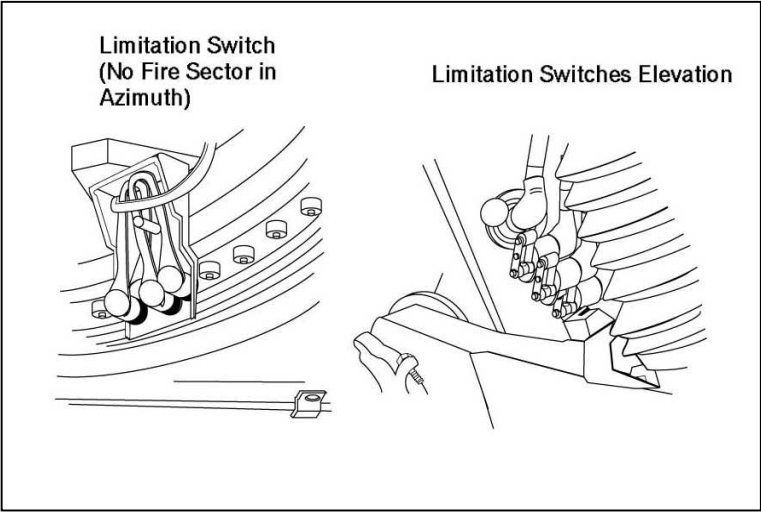

Figure 4-2-10: Limitation Switches (No Fire Sectors)
31. **Limitation Switches (No Fire Sectors).** The six limitation switches (see Figure 4-2-10), three for elevation and three for azimuth, are part of the firing interlock system. These switches permit launching of a missile only when the turret/launchers are within a sector where launching is permitted. They do not hinder the movement of the turret. The elevation switches are attached to a bracket behind the elevation arm and are activated by an actuator on the elevation arm. The azimuth switches are attached to a bracket to the right of the azimuth drive and are activated by a raised rib section on the turret flange.